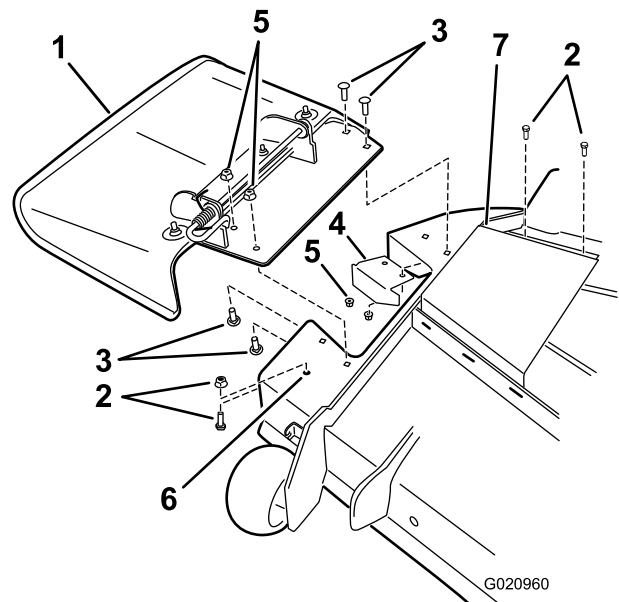

Figure 1
2. Loosen the right-hand, belt-cover bolts (Figure 1).
4. Remove fasteners securing the deflector assembly and existing cutoff baffle to the deck (Figure 1). Retain all fasteners.
5. For 54 inch mower decks only, remove the fasteners plugging the forward hole. (Figure 1).